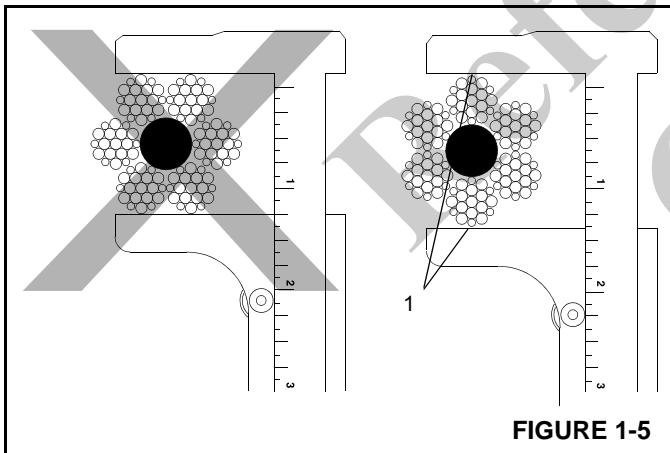

FIGURE 1-5
12. Measure the rope's diameter across crowns (1) of the strands when determining if rope has become damaged (Figure 1-5).